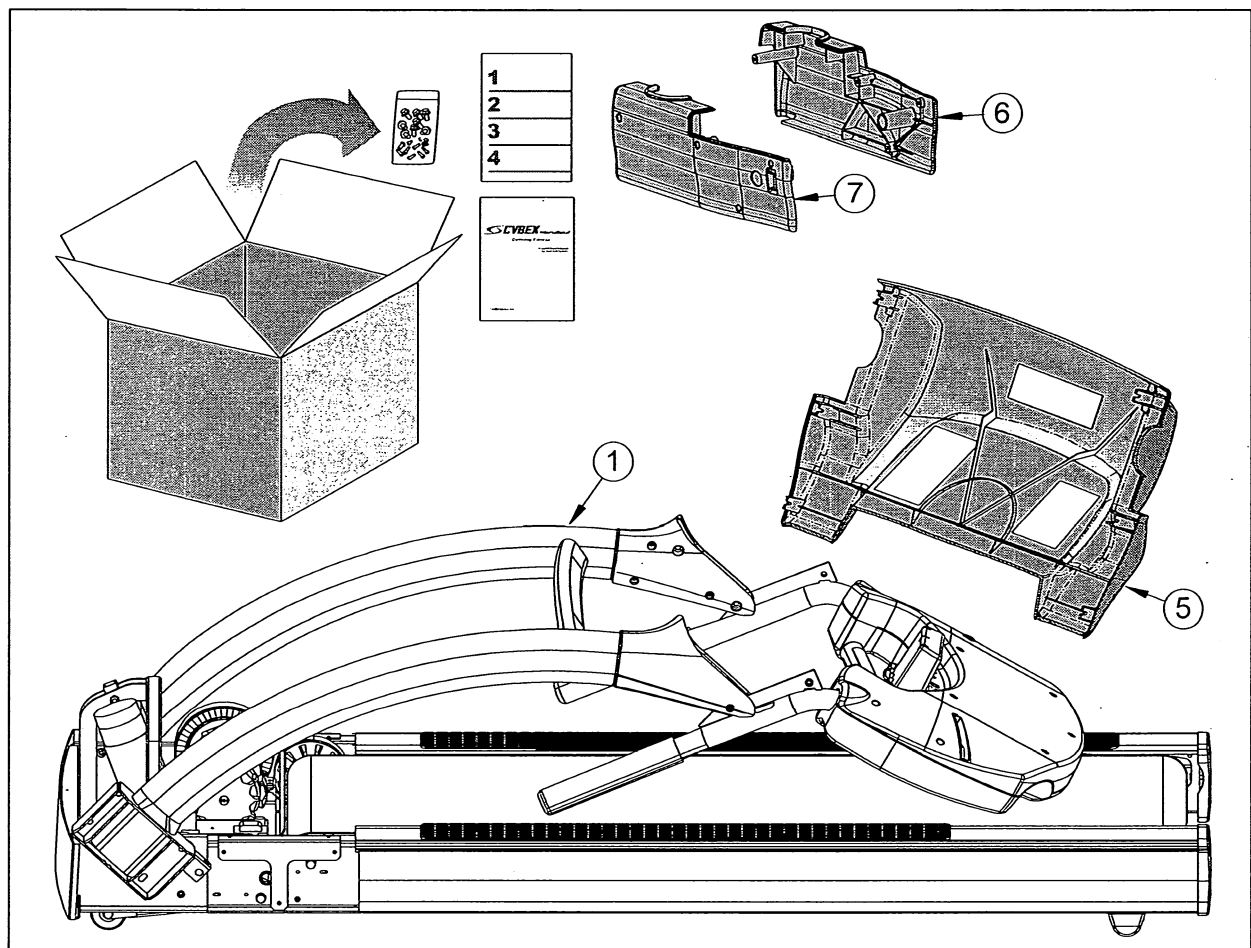

Figure 1
- B. Check to be sure that the following items are present. Check off (☒) each item as you find it. See Figure 1. If any of the parts are missing contact Cybox Customer Service.